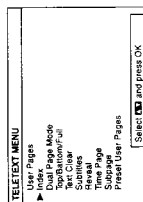

Fig. 37.
- 2 Using  $\Delta$  + or  $\nabla$  -, select the teletext function you want and press OK. (See Fig. 37.)